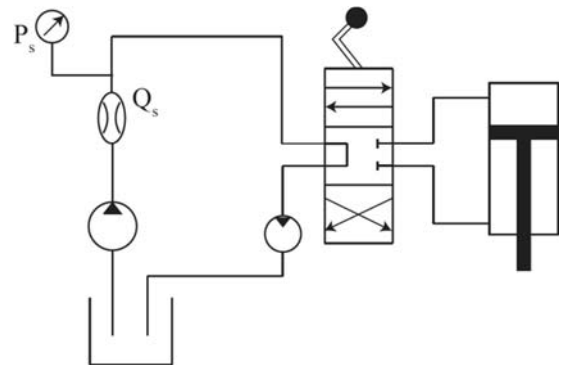

Figure 4
- Repeat the above step for the tandem circuit (Figure 4)